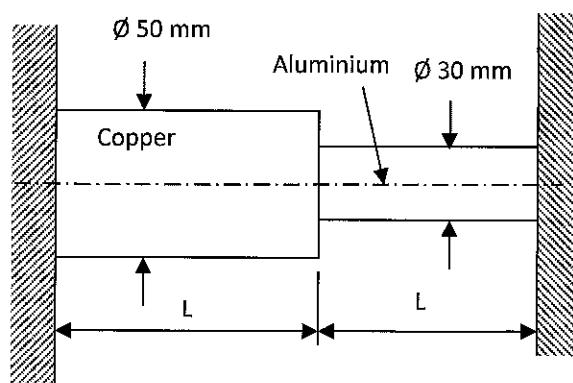

Figure 1(c)/ Rajah 1(c)
- CLO1 (c) As shown in **Figure 1(c)**, a compound bar rigidly mounted on each end. Calculate the stress in each bar when the temperature in assembly is increases to 100°C .